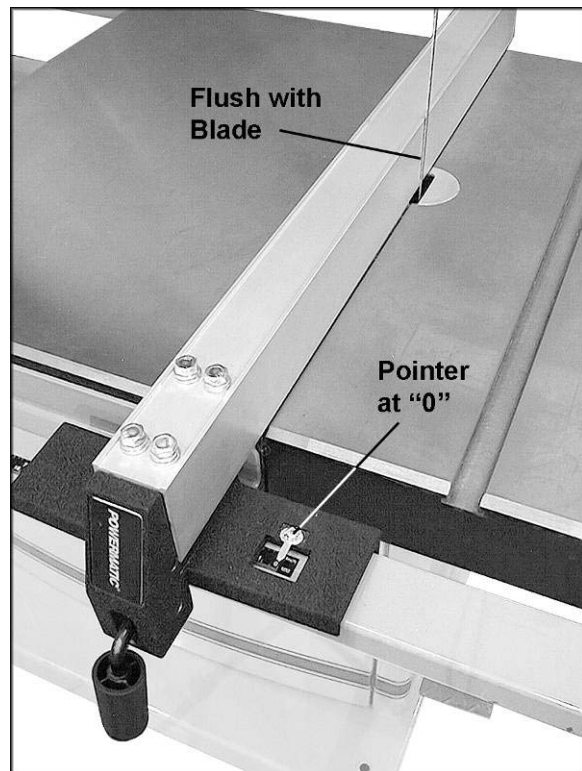

Figure 3
11. Move the fence assembly to the other side of the blade so that the pointer (Figure 3) on the fence body points to “zero” on the scale. Lock the fence by pushing the handle down.
12. Move the guide rail with the locked fence until the fence is flush against the blade. (Do not force the fence into the blade so that the blade bends.) See Figure 3. Do not unlock the fence to perform this. Move the fence and guide rail together when establishing the zero point.